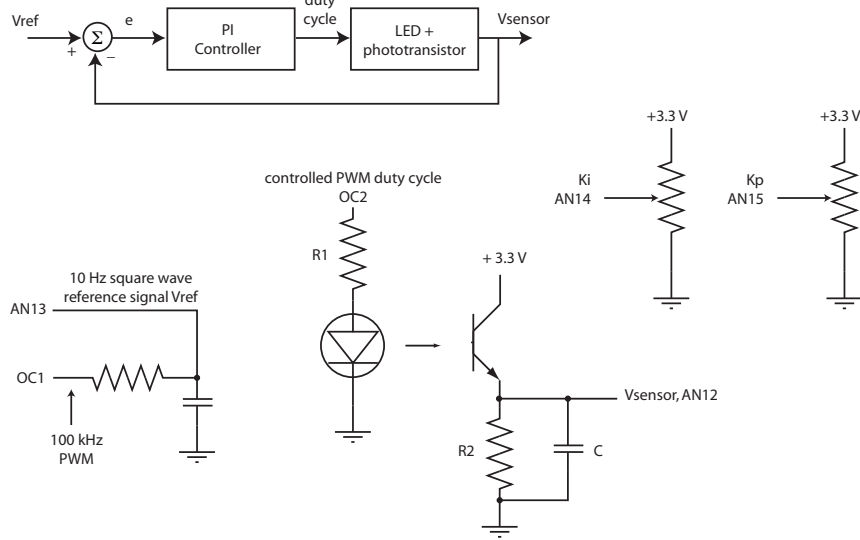
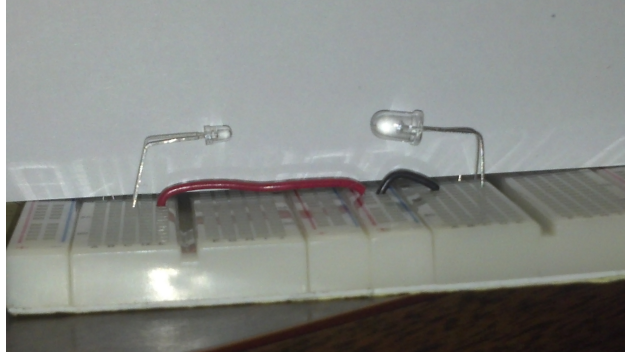

Figure 2: The circuit and control loop you will implement.
Figure 3: A picture of the phototransistor (left) and LED (right). A sheet of paper was added to make the pair more visible in the picture.
1. Wire terminals 1 and 3 of a potentiometer to 3.3 V and ground. Connect terminal 2, the output from the wiper, to pin AN15 on the PIC32. This will serve as our eventual input for  $K_p$  (see Figure 2).
In this section, you are going to build and test the circuit for the LED and phototransistor pair. The LED is going to point at the base of the phototransistor, and the brightness of the LED will modulate how much current flows through the transistor. The LED that we are using is the large clear one that shines red light, the red "super bright" LED. The phototransistor that we are using is the SFH310 phototransistor. You can find pictures of these parts and their datasheets on the What is in the NU32 Kit wiki page. In your circuit, use  $R1 = 100 \Omega$ ,  $C = 0.1 \mu\text{F}$ ,  $R2 = 10 \text{ k}\Omega$  (see Figure 2). There is nothing to hand in for this section.
1. Wire the circuit shown in Fig. 2 for the LED and phototransistor. For the LED, the *cathode is the shorter lead*3. For the phototransistor, the *shorter lead is the collector*. From a practical wiring perspective (Figure 3), the LED and the phototransistor should be placed about 1.5 to 2 inches apart (we counted 16 holes separating the two in our breadboard). They should both be bent to point "towards" each other.
3. Wire the output of the phototransistor circuit ( $V_{\text{sensor}}$  in Figure 2) to AN12.